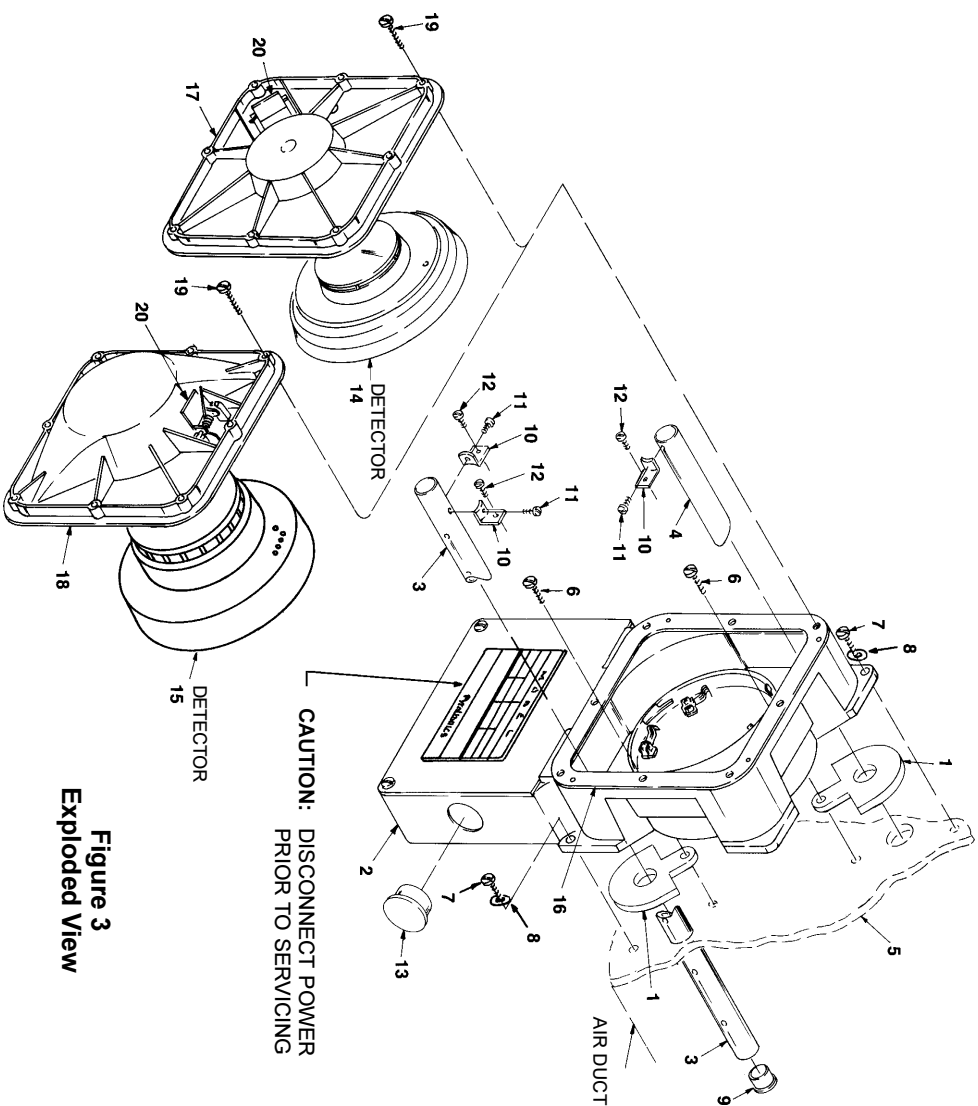
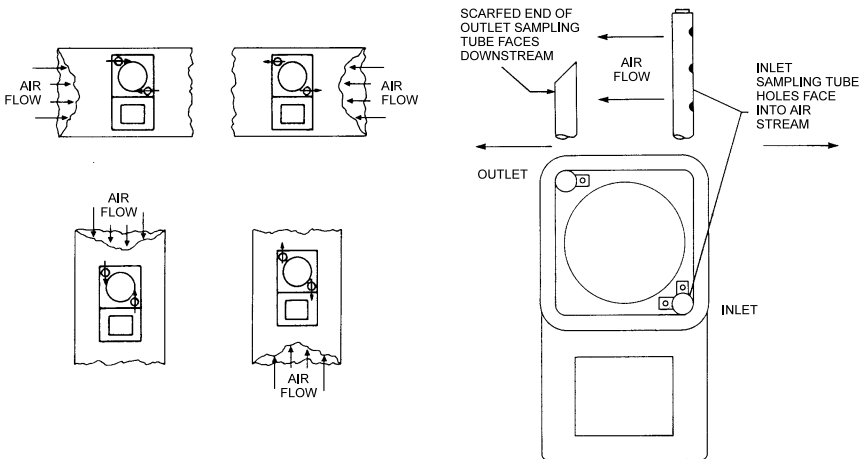

Figure 3
Figure 4
Mounting of the Air Duct Housing (See Figure 3)
Trimming the Inlet Sampling Tube (See Figure 4)
- Trim tube to the correct length, remove all burrs, and insert a rubber stopper (Figure 3, Item 9) in the tube.
NOTE: When attaching brackets, be sure to align tubes properly (See Figure 4).
- c. Install the inlet tube (3) by inserting it through the air sampling chamber as shown in Figure 3. Face sampling tube holes into the air stream (Figure 4), and secure to the housing with $\frac{8}{32}$ screws (12).
- d. Install the outlet tube (4) by inserting it into the upper socket of the air sampling chamber with the scarfed end facing downstream (See Figure 4). Secure the bracket to the housing with an $\frac{8}{32}$ screw.
- e. Make sure no sampling holes extend beyond the ductway, that the stopper (9) remains firmly in position, and that the duct hole is sealed around the protruding sampling tube.
CAUTION: Air Duct Detector Models AD-3XRI/3XRILP are designed only for those detectors shown in the Smoke Detector Compatibility section (See Tables 1 and 2). Do not use any other detector (See Figure 3, items 14, 15 and 21).
1. Install the cover gasket (Figure 3, 16) on the housing, if not already installed. Be certain the alignment holes in the cover gasket are aligned with the guides on the housing.
2. Install the sensing compartment ionization cover (17) when using DI-BX3, DI-BX3H, ID-60IB, ID-60IBH, ILI-1B, or ILI-1BH detectors and the photoelectric cover (18) when using an ILP-1 detector.